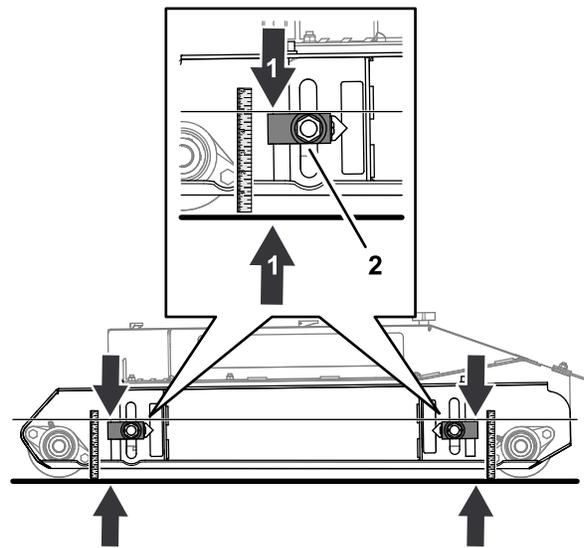

Figure 79
1. Loosen the nut that secures the height-of-cut adjuster block (Figure 79).
2. Move the height-of-cut adjuster up or down until you measure 124 mm (4-7/8 inches) from the top of adjuster block to the ground (Figure 79).